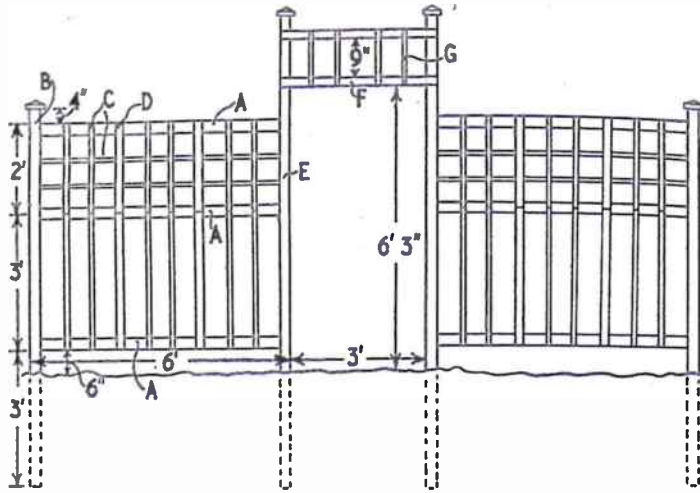

Fig. 1
Most of the measurements are shown in Fig. 1. To make a strong structure the uprights (B) and (E), also the cross pieces (A), should be of 3ins. square oak. To save expense these pieces could well be rough sawn timber and would not detract from the appearance of the finished work. Pieces (B) are cut 8 ft. 4½ins. long and the long uprights (E)
Having satisfactorily assembled the main pieces (A), (B) and (E) you can now commence to nail in position the narrow strips of wood to give the decorative effect. These strips (C) and (D) should be about ¼ in. thick and of suitable width, say about 1 in. to 1½ in. for (C) and 2 ins. for pieces (D). It will be obvious from Fig. 1 how these are nailed to pieces (A).